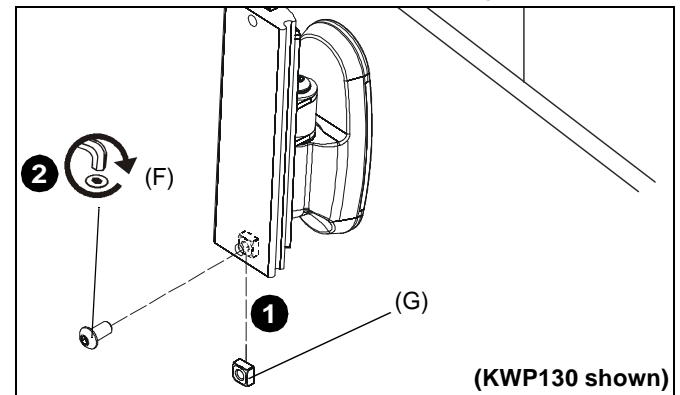

Figure 4
1. Install 1/4-20" square nut (G) into back groove of array (A1 or A2) and line up with bottom hole on plate. (See Figure 4)
2. Install 1/4-20 x 1/2" button head cap screw (F) into lower hole on array mount (A1 or A2) and through square nut (G).